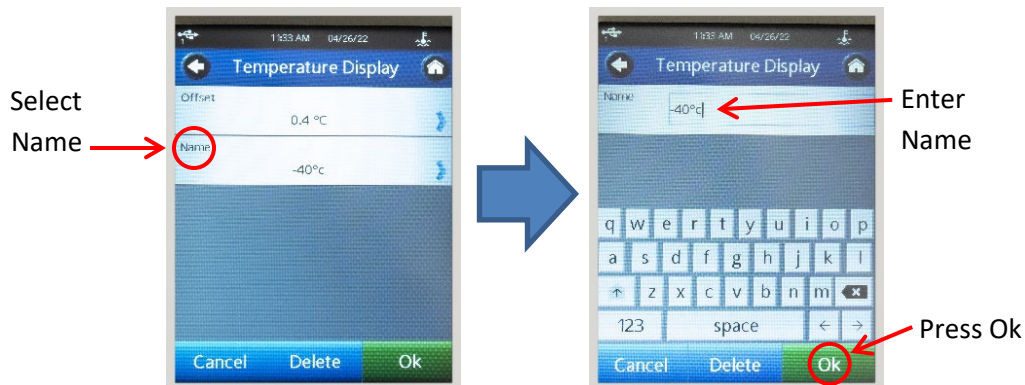

Figure 29: Add/Change Temperature Offset Name
b. This opens a screen where you can change the temperature offset name or value. First, press **Name**. Then enter the name which includes the associated test temperature, such as **-30 °C Offset**. Next, press **Ok**. See Figure 29.